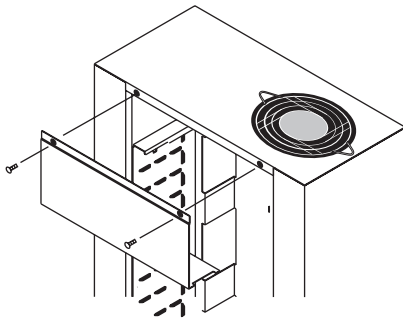

Figure 24: Removing the top access panel
1. Remove top access panel. See Figure 24.